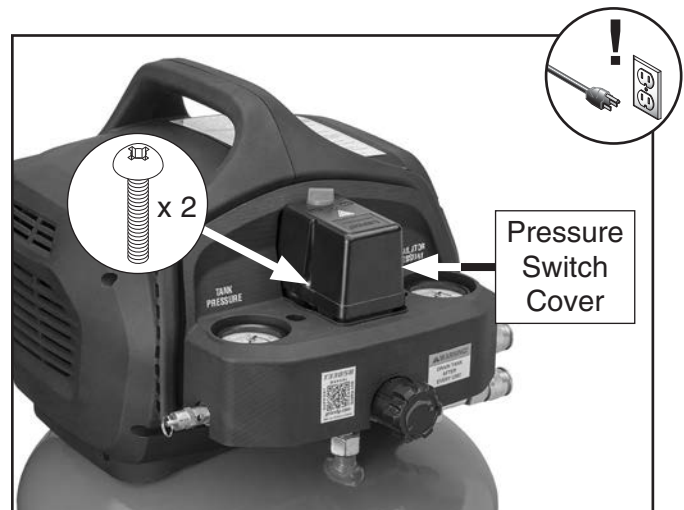

Figure 30. Location of pressure switch cover and Phillips head screws.
4. Loosen Phillips head screws shown in **Figure 30** to remove pressure switch cover.